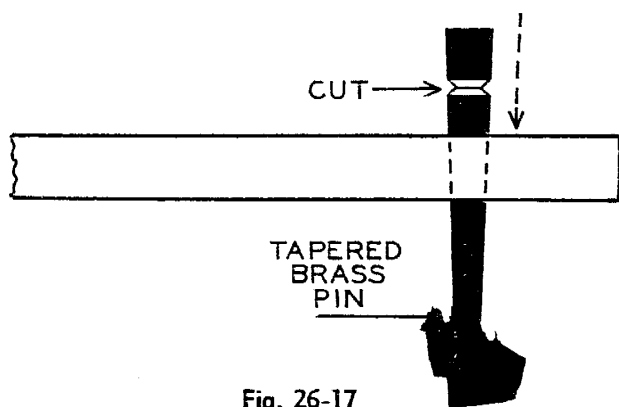

Fig. 26-17
2. Select a brass stud pin that will enter hole as in figure 26-17. If student desires to make a tapered brass pin, refer to Sec. 386, Lesson No. 19, figure 19-13.